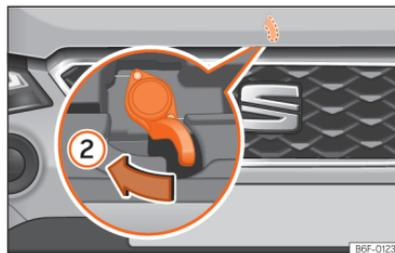

Fig. 179 Lever under the bonnet.
- To lift the bonnet, press towards the left on the lever located under the bonnet, in the centre »»» Fig. 179 ②. The fastening hooks are unlocked.